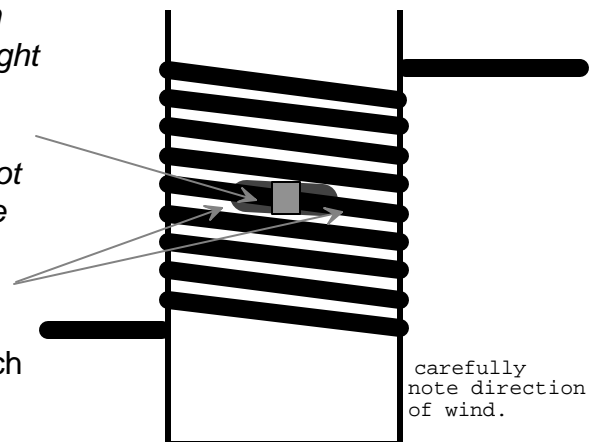

fig. 1
1. New cable is pre-bent at a certain spot. Push this bend into Adjuster Pipe hole so that end with shackle leads to back of machine. (After winding, the cable will leave pipe at bottom as in fig. 1. and shackle will go towards front of machine)
5. Wrap the shackle end around pipe so as to follow a left hand thread as shown in fig. 1. **Important:** *On earlier Treadwalls, the cables were wound as a right hand thread. Even if only one cable is being replaced, both cables must be wound the same way. Check the other cable and rewind it if it is not like fig. 1. Also, both cable guards will have to be replaced in this case to accommodate the new winding.*